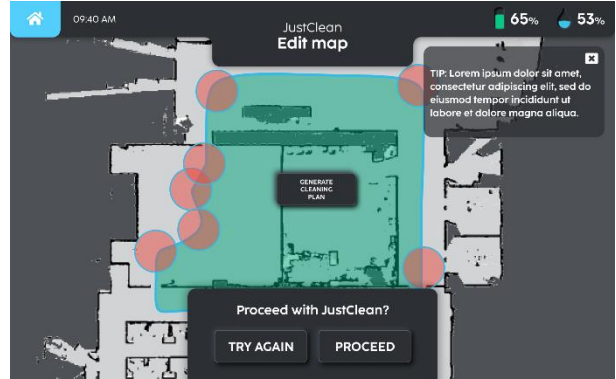

Fig. 13
3. Once path is closed (Fig 12), press 'save' and map is saved (Fig 13).